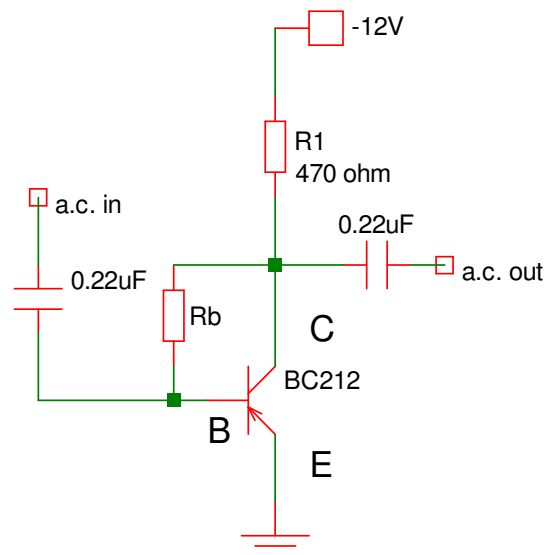

Figure 9: Audio amplifier
Following Figure 9, test your deduction by connecting the signal generator between earth (0V) and input terminal, which is at the end of a $0.22\mu\text{F}$ capacitor (provided in the test-rig). Display the input signal on channel 1 of your oscilloscope (make sure the oscilloscope is AC coupled). Use channel 2 to display the signal from the collector (output), and connect the high-impedance earphone to the collector, via the second $0.22\mu\text{F}$ capacitor, using the 'jack' plug and socket. Look at the difference between the undistorted low-level waveform and the distorted high-level waveform, by varying the input signal level from the signal generator. Record appropriate signal levels.
16. What is the role of the capacitors in Figure 9? Do they influence the bias?(2 points)